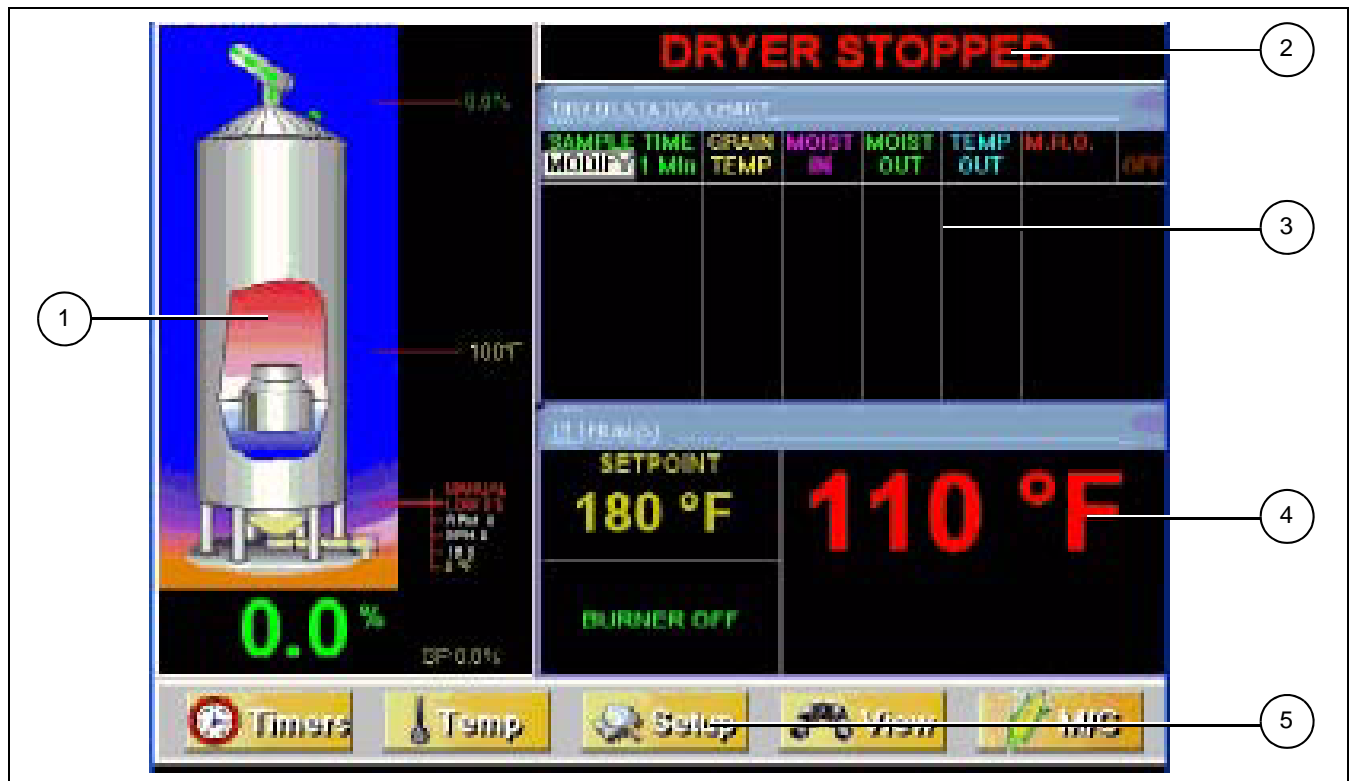

Figure 6B
1. **Table view:** Default operation screen view. (See Figure 6B on Page 37.)
6. Press  then  to return to the operation screen. (See Figure 6B on Page 37.)
4. Press  then  to return to the operation screen. (See Figure 6B on Page 37.)